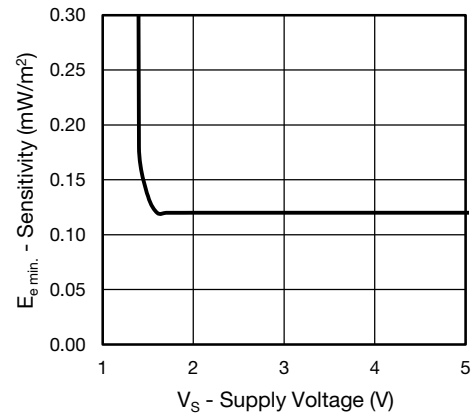
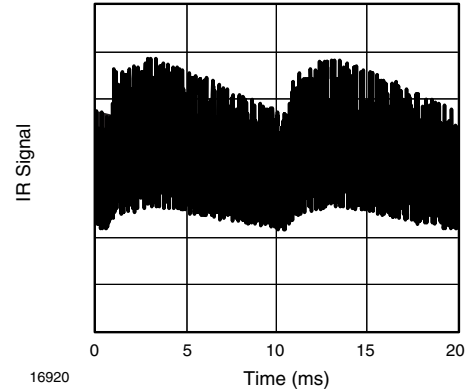

Fig. 12 - Sensitivity vs. Supply Voltage
Fig. 13 - IR Signal from Fluorescent Lamp with Low Modulation
- Strongly or weakly modulated patterns from fluorescent lamps with electronic ballasts (see figure 12 or figure 13)